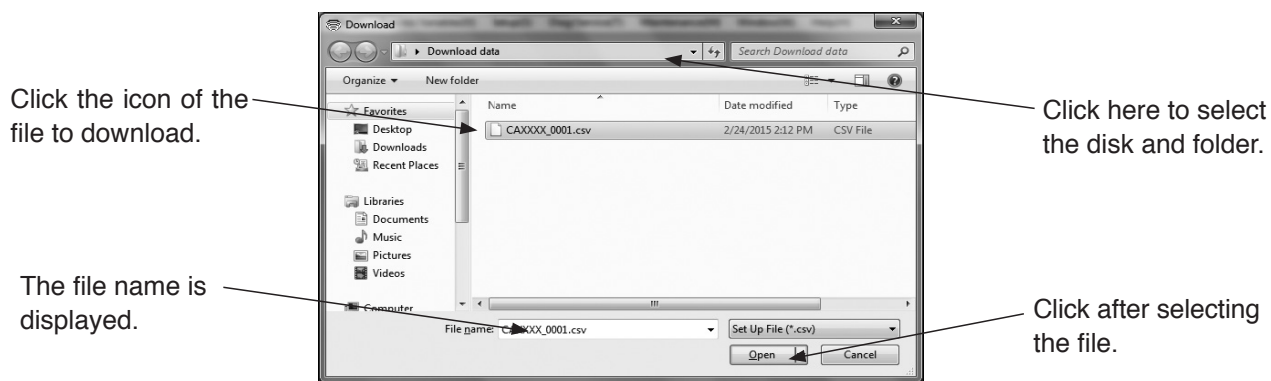

Fig.179
- ① To download, verify the parameters in the current flowmeter to ensure that it is the right flowmeter. To save parameters, follow the instructions in section 3.10.1.2 "Saving files".
- ② After verifying the flowmeter, load the data to be downloaded.
- ③ Click the "File (F)" menu and select "Download (D)" from the "Database (F)" drop-down list.
- ④ The standard dialog will be displayed (Fig. 179). Select the disk and folder where the file to be downloaded is stored from the drop-down list.
- ⑤ Select the file to download by clicking it. Verify the "File Name (N)" and click the "Open (O)" button. To exit without downloading the file, click the "Cancel" button.